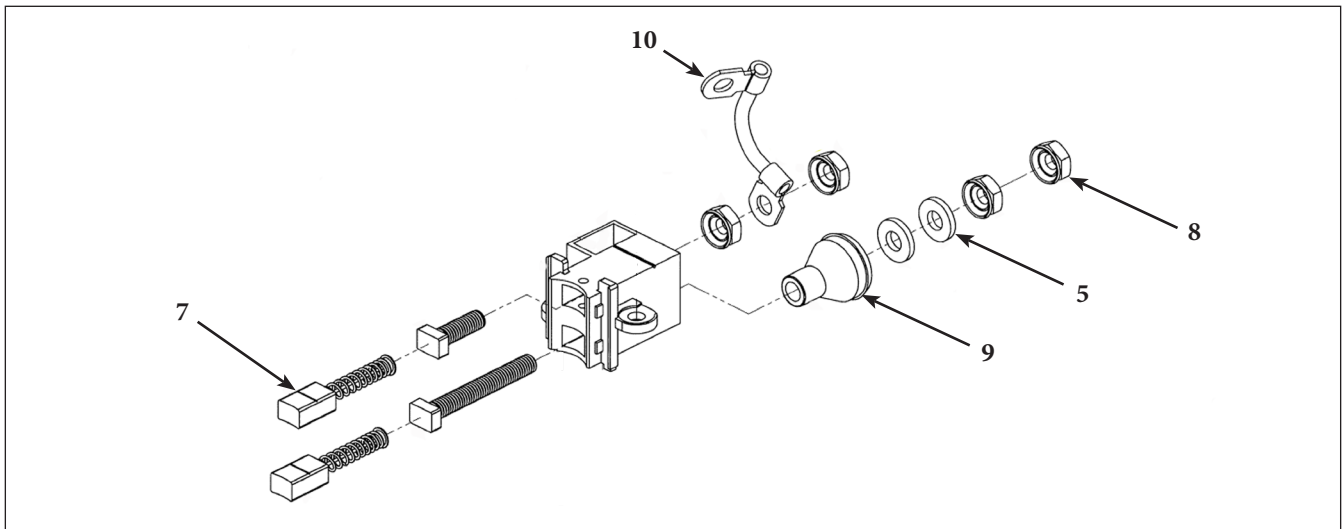

Figure 6.3 - Brush Assembly (4) Exploded View
- 7. Depress each brush (7, Figure 6.3) into it's pocket with a small wood or plastic dowel and slip a length of 22 gage insulated wire into the hole provided in side of the brush holder and seal. The wire will retain the brushes for installation of the holder. (A new brush holder assembly is shipped with retaining wire installed).
- 8. Install the new or refitted brush holder assembly with two retaining screws (3) and two new lock washers (2). Torque screws to 18 to 20 in-lbs. Spin rotor and check for interference between the brush holder and rotor.
12. Install the back cover with three screws (1) and three new lock washers (2) and torque to 20 to 25 in-lbs. Reinstall the alternator if removed per the engine or airframe manufacturer's service or maintenance instructions or manuals.